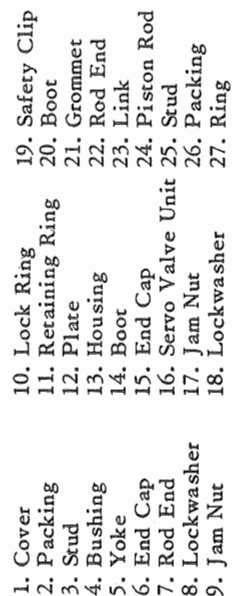

Figure 7-14. Main Rotor Servo Unit Assembly Disassembled.
a. Unbolt link (23, figure 7-14) from ring (27).
b. Slip inner end of boot (20) from groove on sleeve and slide boot back with grommet (21) on rod end (22). Back off jam nut (17) and unscrew rod end from servo valve unit (16). Remove boot and grommet from rod end. Remove safety clip (19), lockwasher (18), and jam nut (17).
c. Remove plate (12).
d. Loosen jam nut (9) and remove rod end (7).
7-69. REASSEMBLY. (See figure 7-14.)
i. Slip pilot valve boot down to expose jam nut (17, figure 7-14), lockwasher (18), and safety clip (19). Loosen jam nut.
j. Adjust trajectories so they will not exceed 2-inch limit by threading servo valve unit (16) in or out of rod end (22).